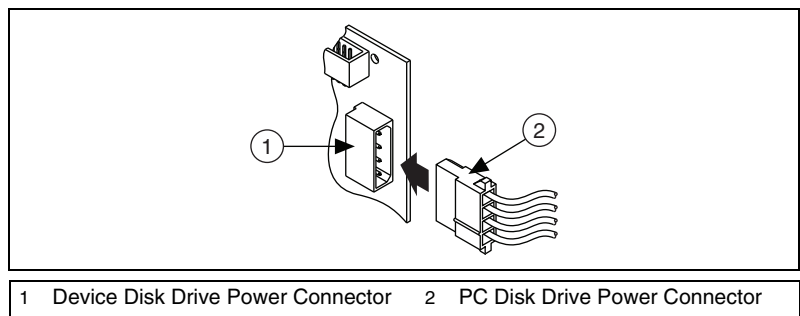

Figure 2-19. Connecting to the Disk Drive Power Connector
3. Attach the PC disk drive power connector to the disk drive power connector on the device, as shown in Figure 2-19.